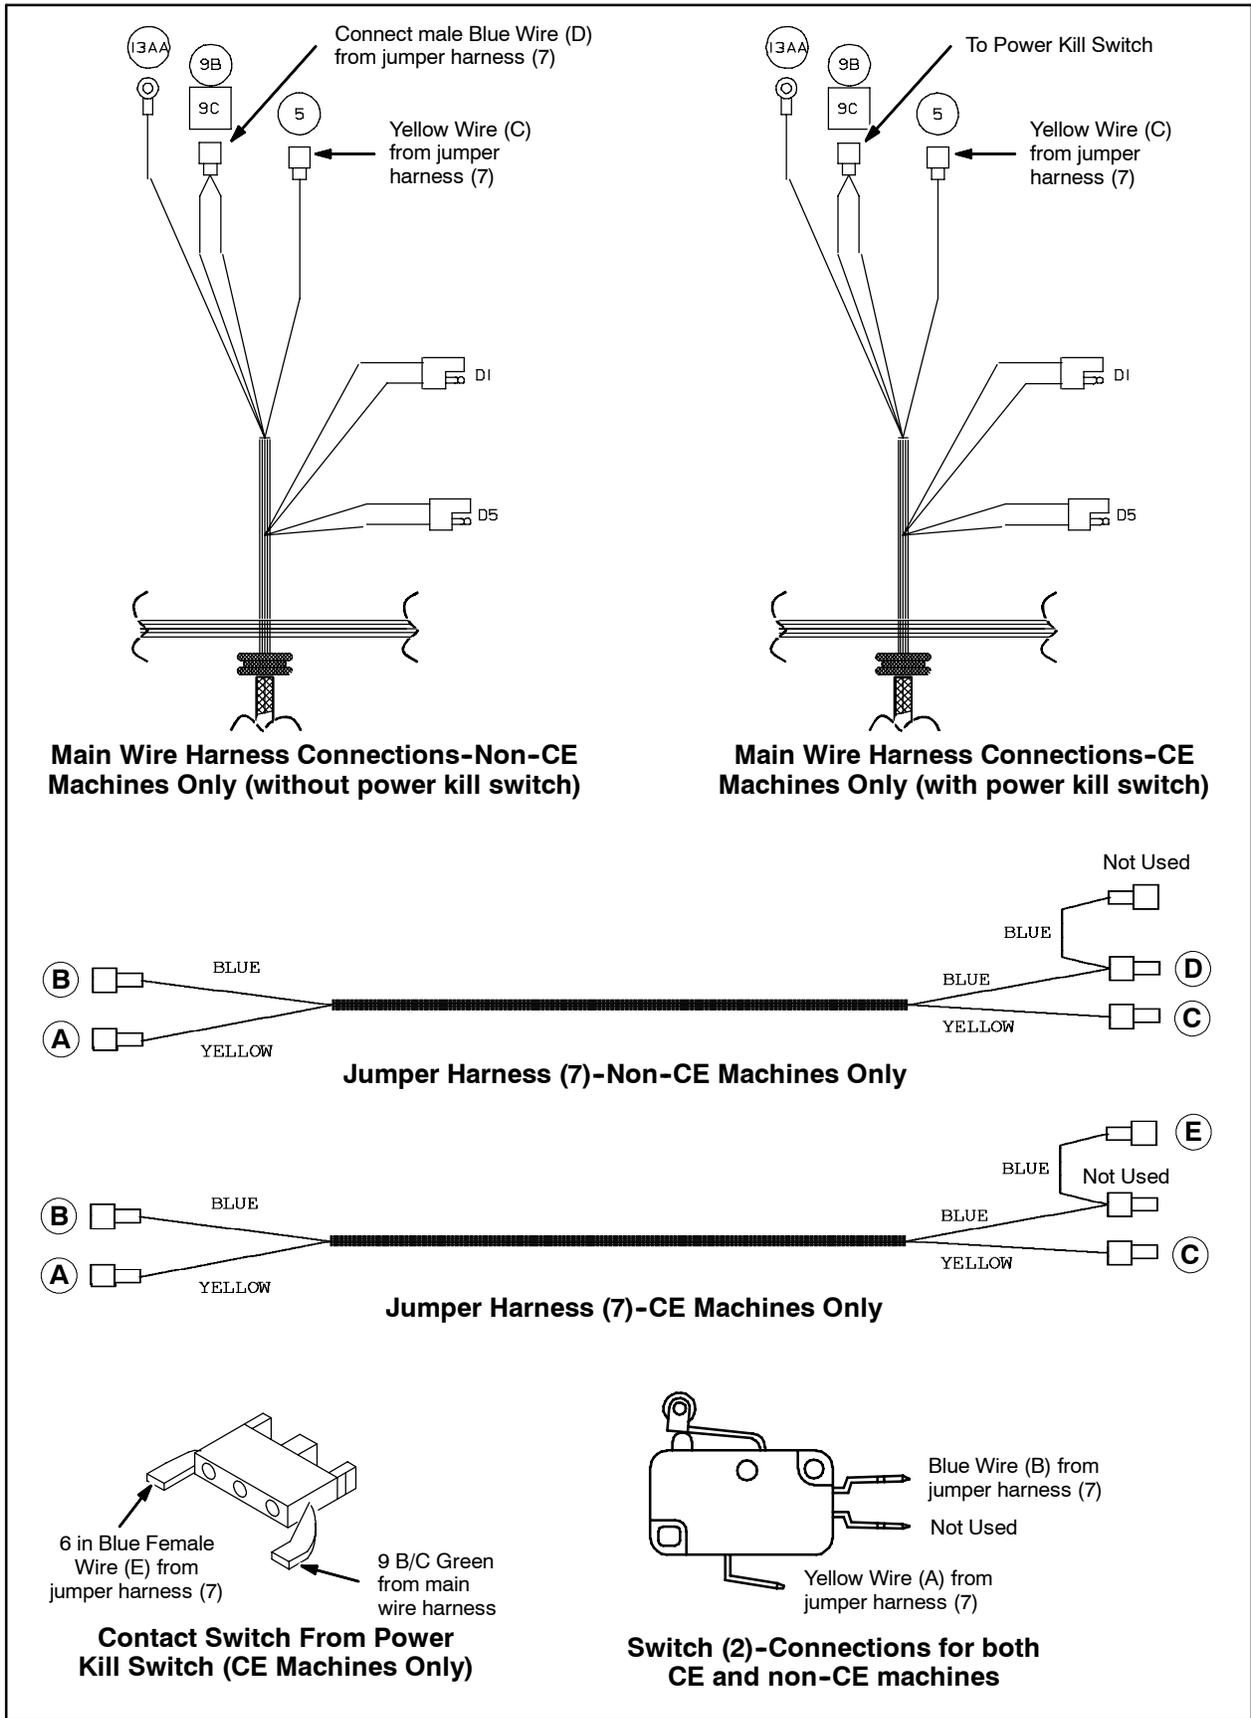

FIG. 7
- Connect the jumper harness (7) to the switch (2). Refer to Fig. 7.
8. **Non-CE machines only:** Connect the jumper harness (7) to the main wire harness. Refer to table below for wire locations. Wrap electrical tape around the unused connector on the (E) 6 in. blue wire and tie off. Refer to the table below and Fig. 7.
CE machines only: Connect the jumper harness (7) to the main wire harness and the power kill switch. Wrap electrical tape around the unused connector on the (D) blue male wire and tie off. Refer to the table below and Fig. 7.